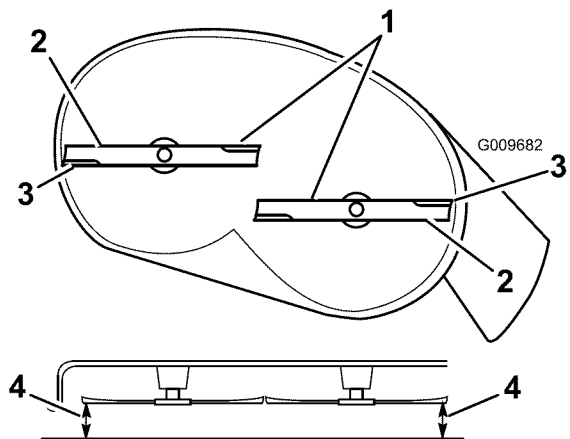
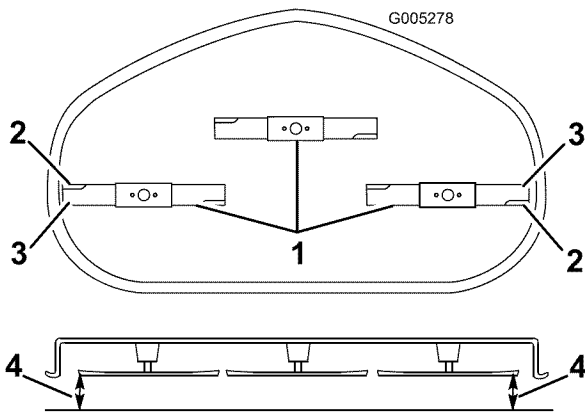

Figure 48
Figure 49
4. Carefully rotate the blades so that they are all side to side (Figure 48 and Figure 49).
5. Measure between the outside cutting edges and the flat surface (Figure 48 and Figure 49). If both measurements are not within 3/16 inch (5 mm), an adjustment is required; continue with this procedure.